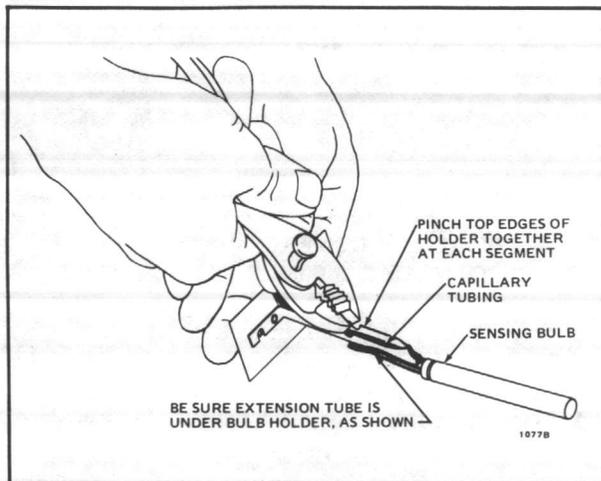

FIG. 11—SECURING CAPILLARY IN BULB HOLDER.
4. Place capillary in bulb holder channel. Pinch top edges of holder together at each segment (Fig. 11).